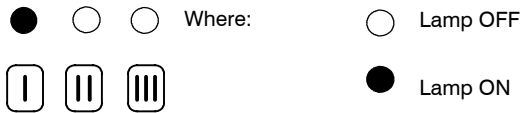

Fig. 11.5
- 16 The lamps *E* should give the indication as in Fig. 11.5.